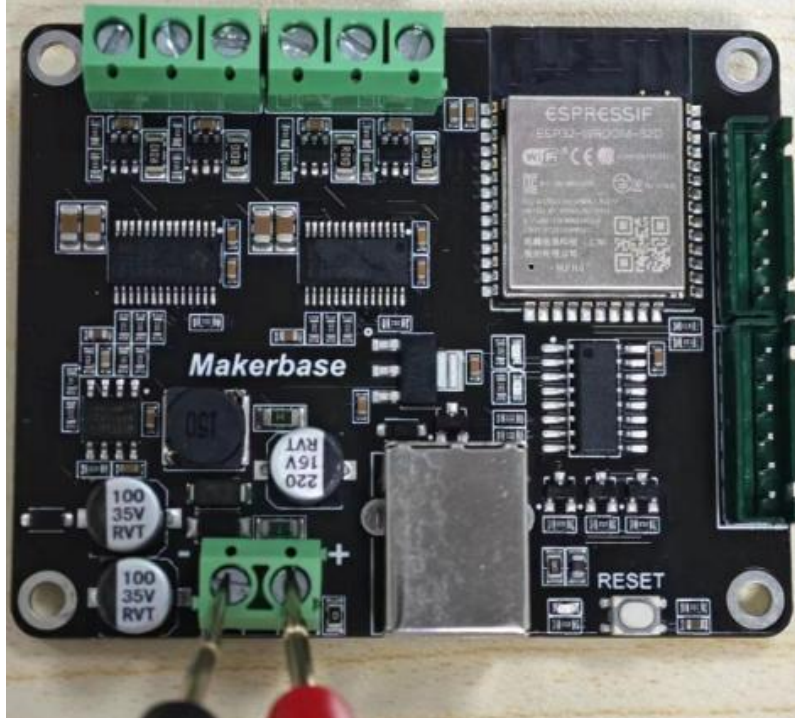

Figure 1 Measuring whether Vin is short-circuited
1. Use a multimeter to check whether there is a short circuit between the positive and negative terminals of VIN on the driver board, as shown in Figure 1